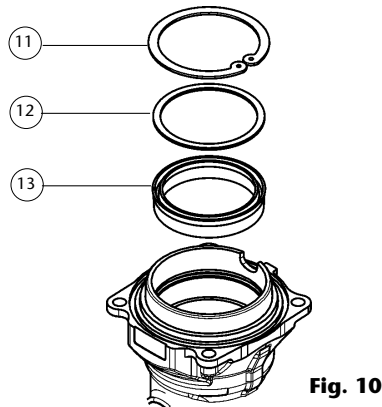

Fig. 10
5. Remove the piston (10) and disassemble the circlip (11), the washer (12) and the seal (13) (fig. 10). Check the piston for scratches and replace damaged parts.